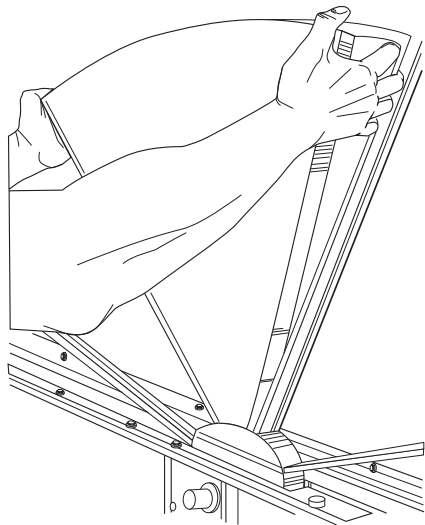

Fig. 34 — Inserting a Segment of the Wheel
2. Holding the segment as vertical as possible and centered between spokes, insert nose of segment downward between the hub plates. See Fig. 34.